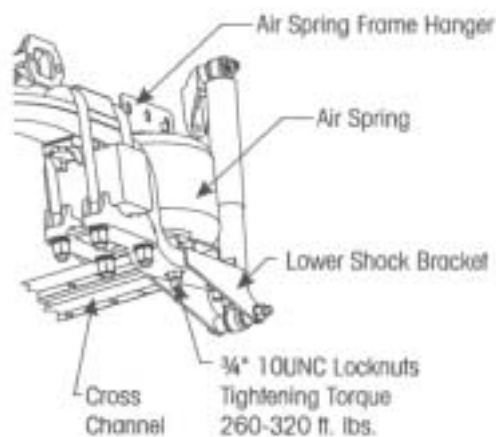

Figure 7.11
4. Remove the 1/2" locknut and washer that connect air spring to the cross channel. See **Figure 7.11**.